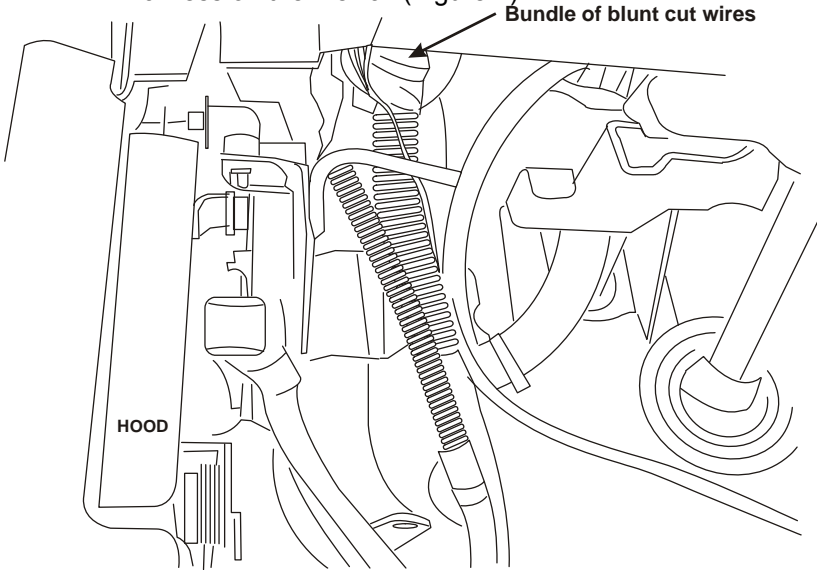

Figure 1
- F-Series – bundle is under the dash by the park brake (Figure 1).
- Connect the key switched 12V yellow wire to the OEM purple wire located in the bundle of blunt cut wires near the parking brake (Figure 1).